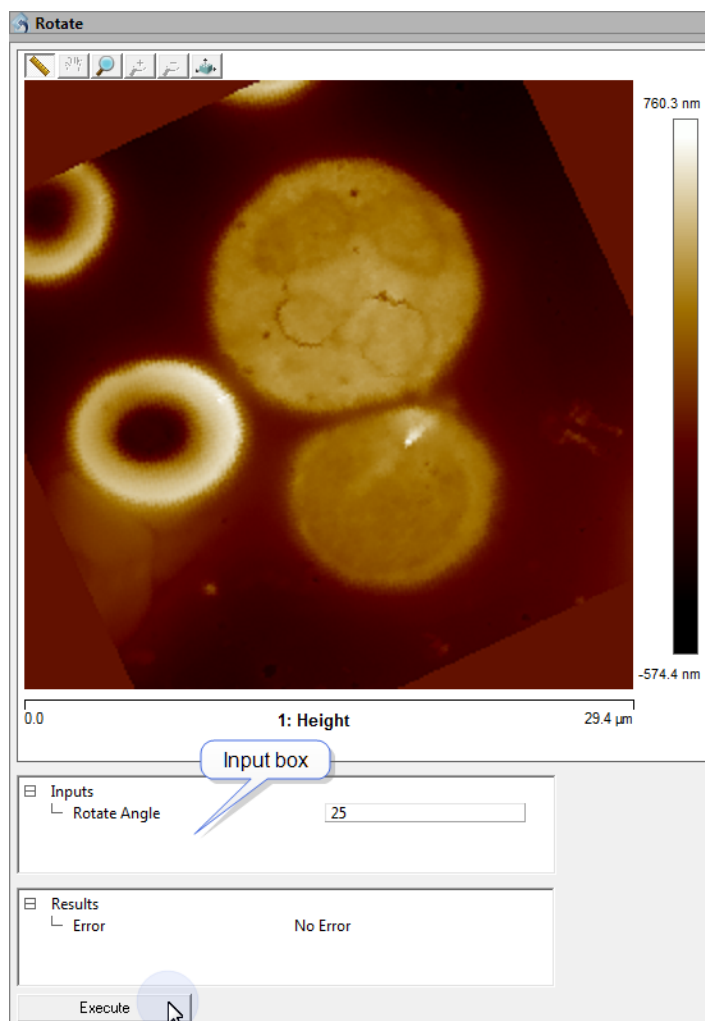

Figure 6.10a: Rotate Menu & Window
2. Open the **Rotate** filter by selecting Filter > Rotate from the **Menu** bar or by clicking the Rotate icon in the **Icon** toolbar. The **Rotate** window, shown in Figure 6.10a, opens.